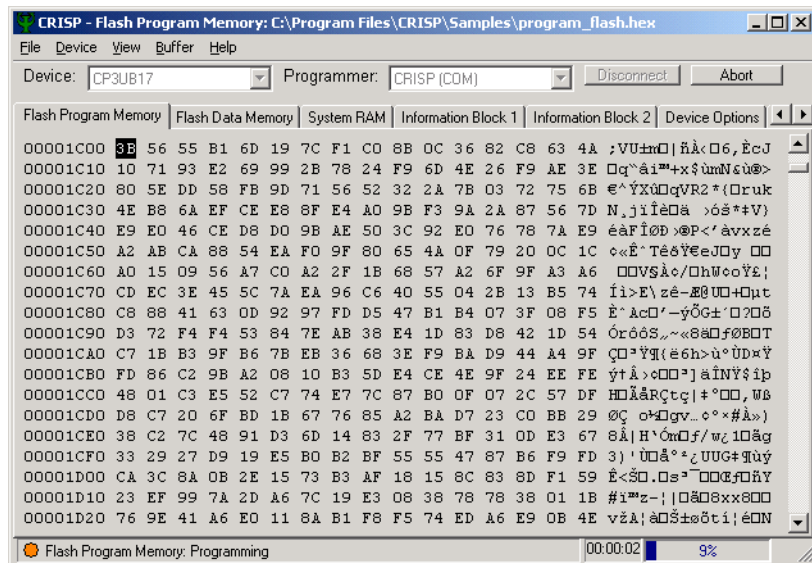

Figure 5-10. CRISP Status Bar During Programming
2. **Monitor CRISP Status.** During this process, the status bar should look as shown in Figure 5-10.